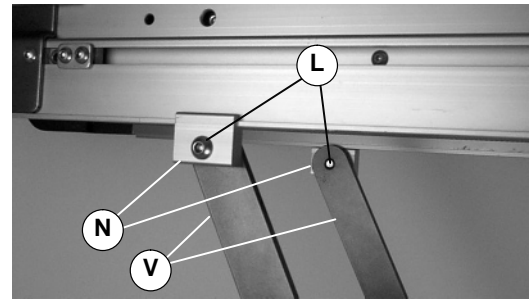

Figure 8
- 7b. Loosely attach brace bars (V of Figure 8) to conveyor using clips (N) and screws (L).